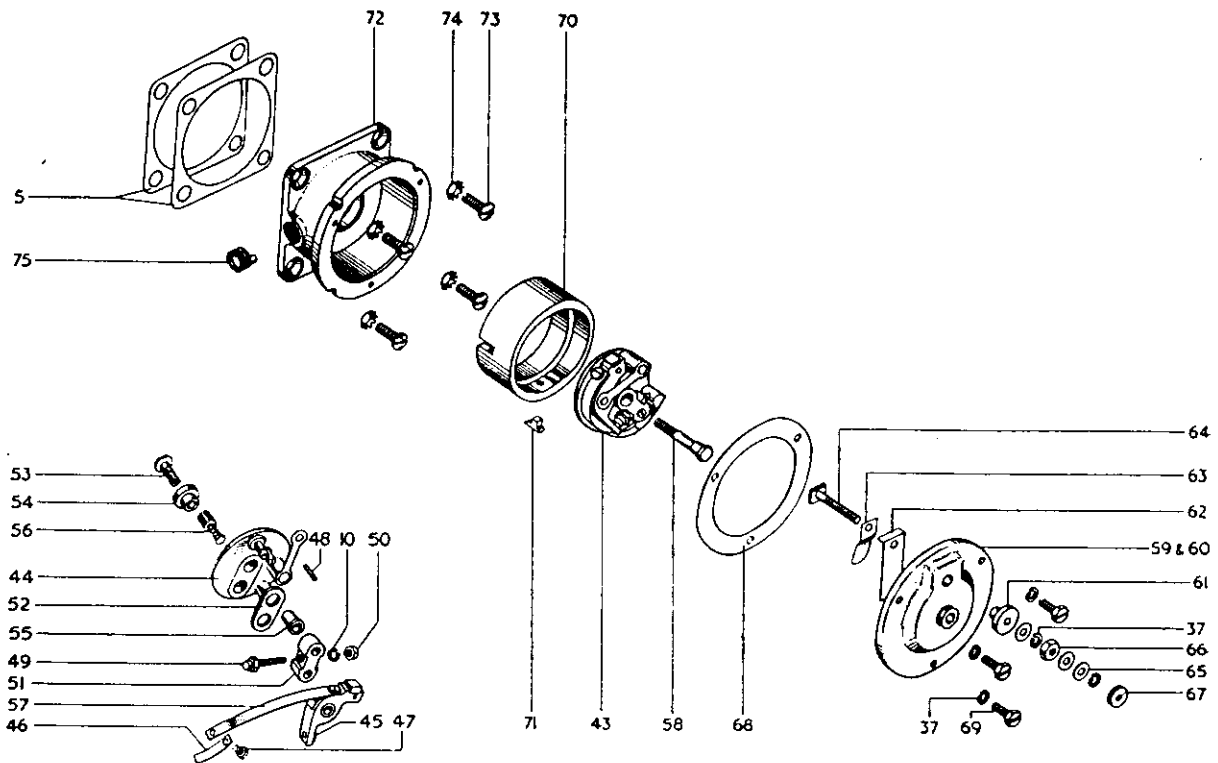

Fig. 4. Magneto Contact Breaker.
2. The generator is a permanent magnet alternator built into the primary chaincase and comprises two units only; a wound stator and a permanent magnet rotor. (See Fig. 4, Page 13).